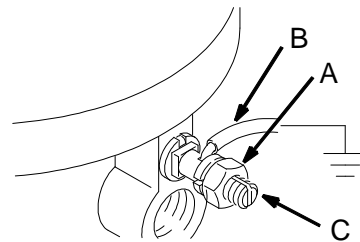

Fig. 3
1. *Pump:* Loosen the grounding lug locknut (A) and washer. Insert one end of a 12 ga (1.5 m²) minimum ground wire (B) into the slot in the lug (C). Tighten the locknut securely. See Fig. 3. Connect the other end of the ground wire to a true earth ground. Order a Grounding Clamp, P/N 103-538, and a Grounding Wire, P/N 208-950, (25 feet (7.6 m) long, 12 ga.).